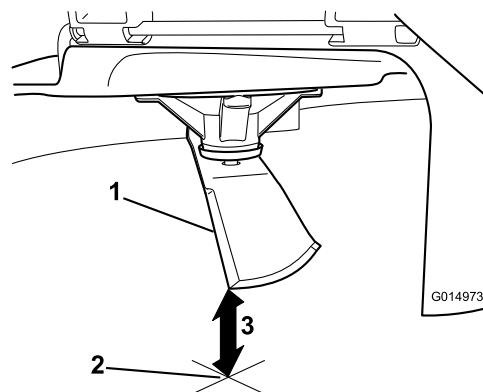

Figure 55
5. Measure from the tip of the blade to the flat surface (Figure 55).